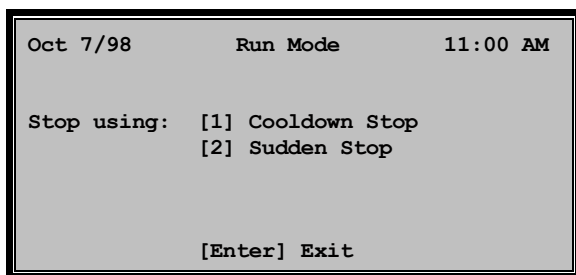

Figure 2-45
- (b) The control panel will prompt STOP USING? [1] COOLDOWN STOP, [2] SUDDEN STOP (Figure 2-45).